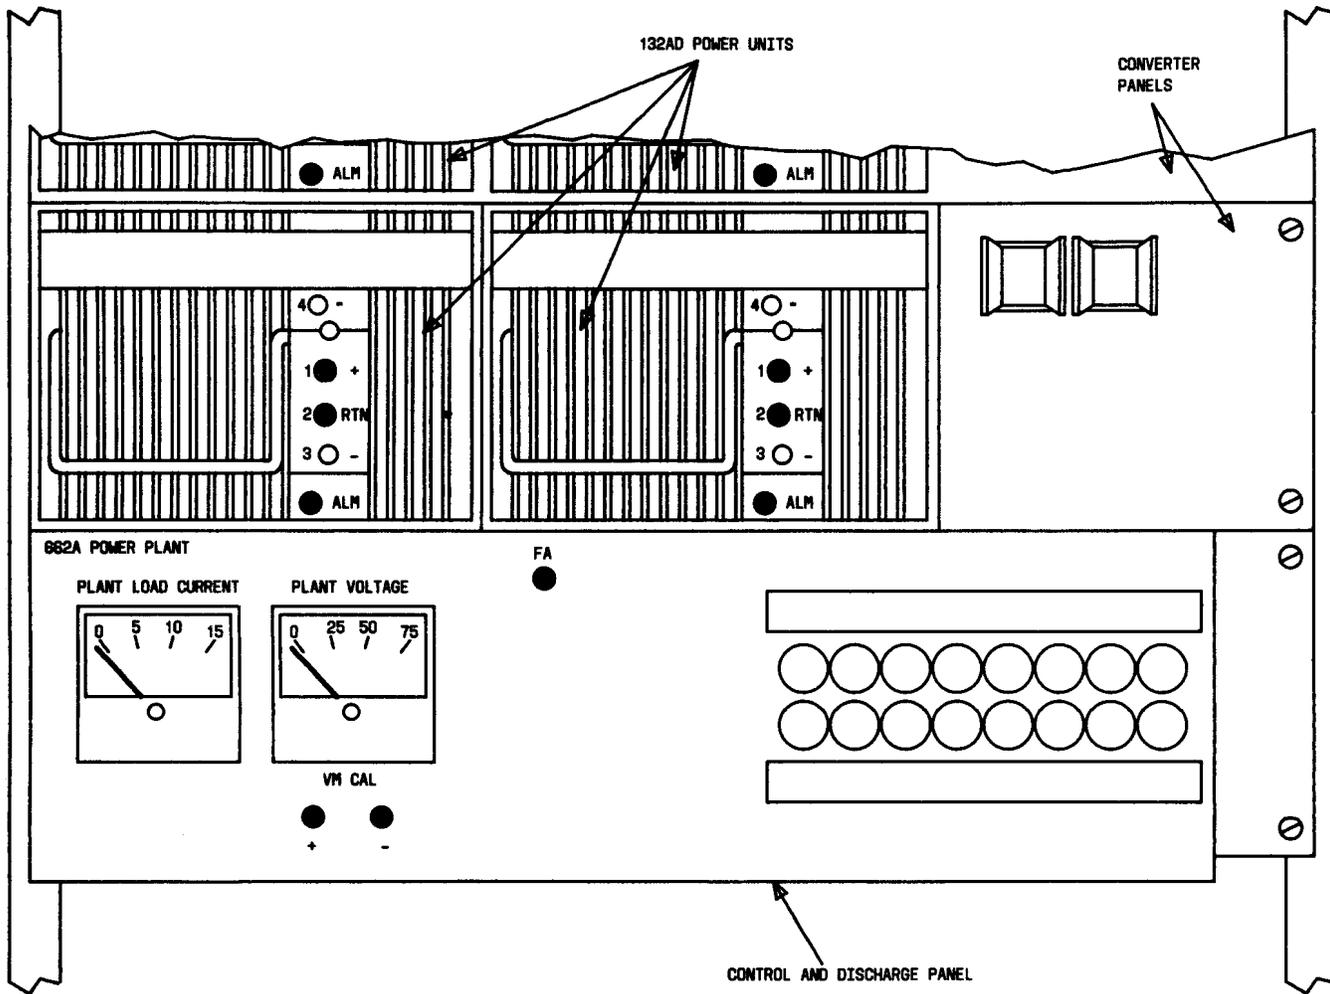

Fig. 1—662A Power Plant—Plant Configuration—Typical
1.04 The *plant* configuration is intended for use when loss of +48 volt power, due to a converter failure, would result in direct loss of service. In this configuration, an installation may have one control and discharge panel (Fig. 1) and from two to six converters (132AD power units), with their outputs paralleled, which can supply loads from 2.3 to 11.5 amperes. The plant capacity is increased by 2.3 amperes as each converter is added. One more converter is provided than is necessary to supply the load so that failure of a single converter will not reduce the capacity of the plant.
1.08 The converter panel (Fig. 1) which mounts two converters and their associated alarm relays and output resistors is equipped and internally wired the same for both plant and dedicated configuration